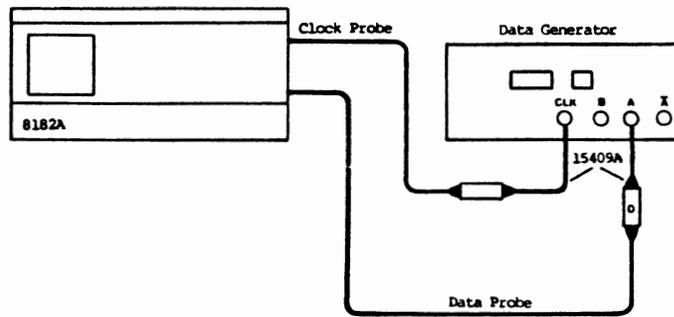

Figure 4-2 Trigger/Stop Delay Test Setup
7. Connect equipment as shown in figure 4-2 and press RUN.